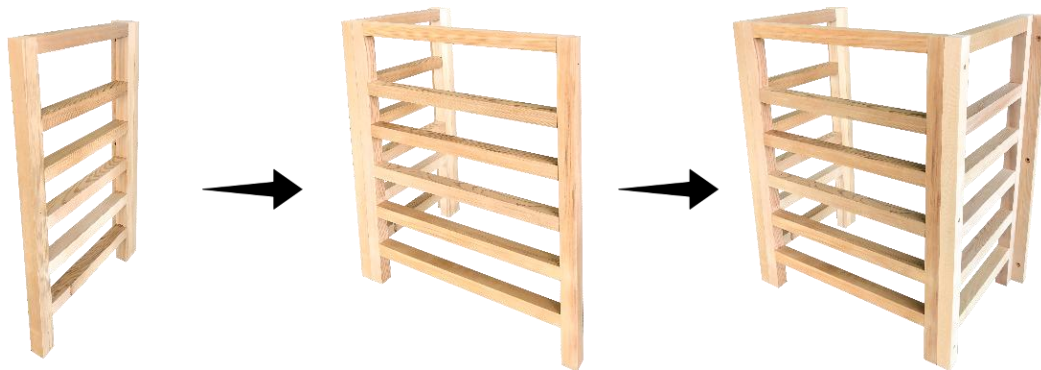

Figure 16
1. First, you will need to locate the wood housing for the heater and assemble it using the provided 3.5x40mm wood screws. (see Figure 16)